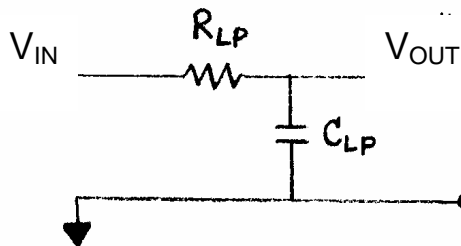

Figure 5. RC Low-pass filter.
1. Build the RC low-pass filter shown in Figure 5. Choose the resistor R_{LP} and the capacitor C_{LP} such that $R_{LP} = 10 \text{ k}\Omega$ and $C_{LP} = 0.1 \text{ }\mu\text{F}$.